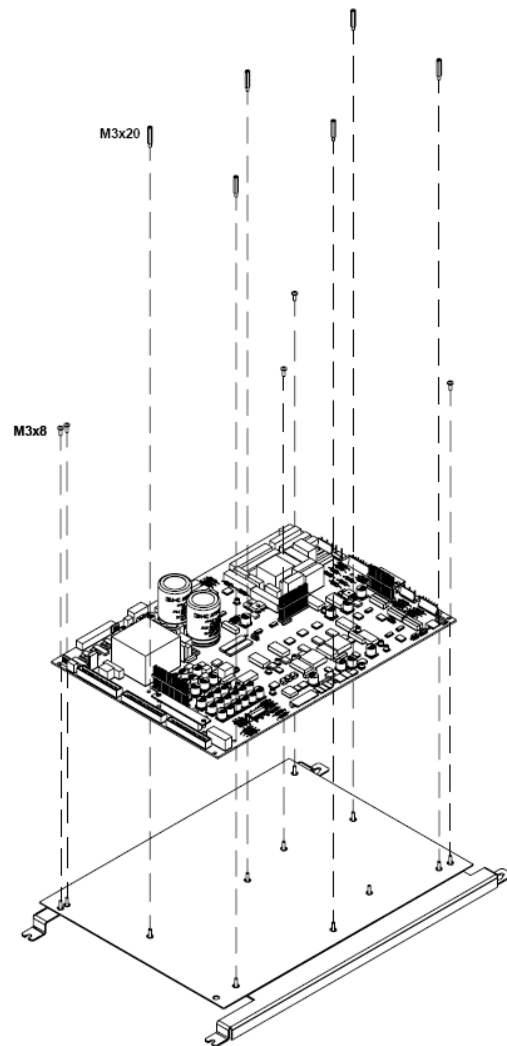
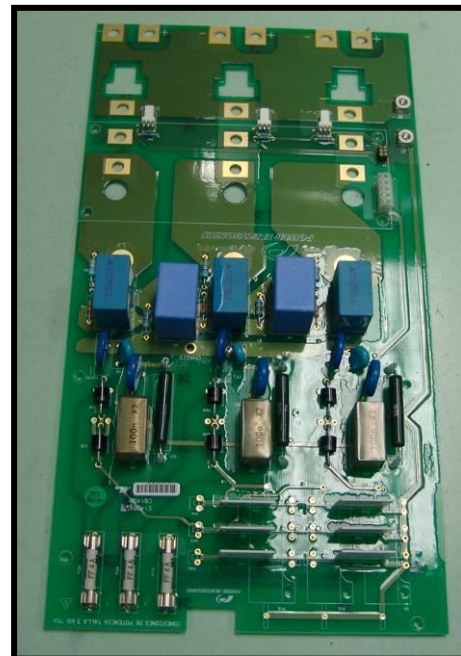
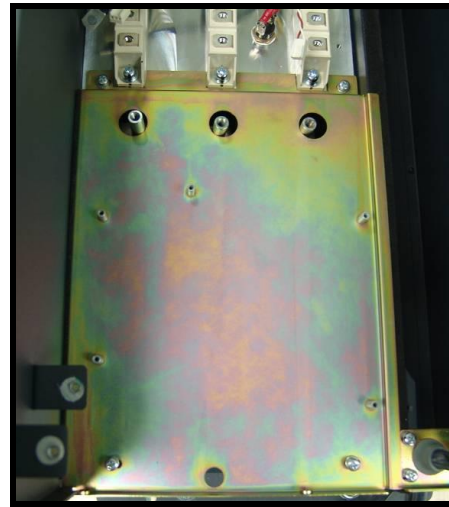

Figure 7.3.7. Disassembly of the power board
Figure 7.3.10. Disassembly of the power connections board
Figure 7.3.16
- 5) Put the board on the electronic tray, matching the bolts of the tray with the holes of the board (see figure 7.3.7).
Before proceeding, you should remove the embellishers (see section 7.3.1), the tray for the boards (see figure 7.3.7), and the pluggable PCB of the trigger thyristors (see section 7.3.7).
- 4) Remove the 5 Phillips screws **M3x6** DIN-7895H. See figure 7.3.10.
- 4) Put the board in the correct position as the figure 7.3.10 shows, matching the holes with the thyristors, the choke and with the bus.
Before proceeding, you should remove the embellishers (see section 7.3.1), the tray for the boards (see figure 7.3.7), the pluggable PCB of trigger thyristors (see section 7.3.7), and the power connections board (see figure 7.3.10).
Before removing the upper Gate Drive board, you should remove the embellishers (see section 7.3.1) and the tray for the boards (see figure 7.3.7).
Before removing the medium and lower Gate Drive board, you should remove the embellishers (see section 7.3.1), the tray for the boards (see figure 7.3.7), the power connections board (see section 7.3.8) and the upper Gate Drive board (see section 7.3.10).
Before removing the transformers, you should remove the embellishers (see section 7.3.1) and the tray boards (figure 7.3.7).
In order to remove the AC choke, first, you should remove the embellishers (see section 7.3.1), the tray for the boards (see figure 7.3.7), the power connections board (see section 7.3.8), the DC bus (see section 7.3.9), and the tray where the connections board is supported (see figure 7.3.16).